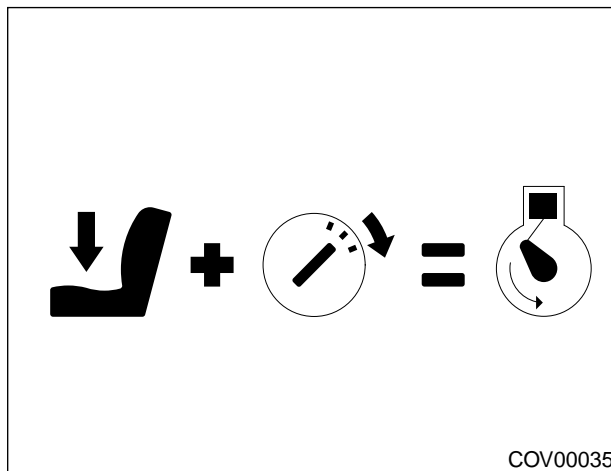

Figure 4.9 - Start Interlock Function
The symbol (1), on the dashboard decal - Figure 4.9, indicates the Operator must be seated to deactivate the start inhibitor before starting the machine.